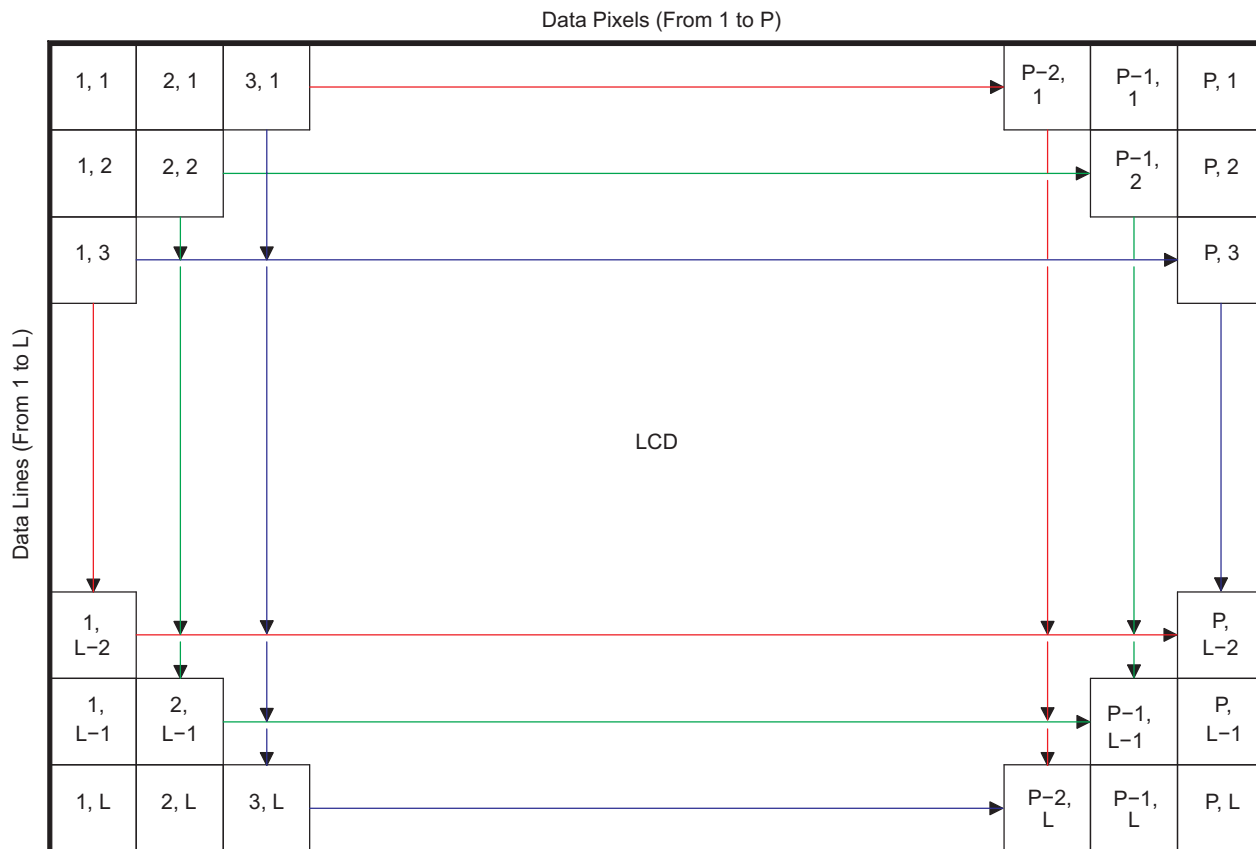
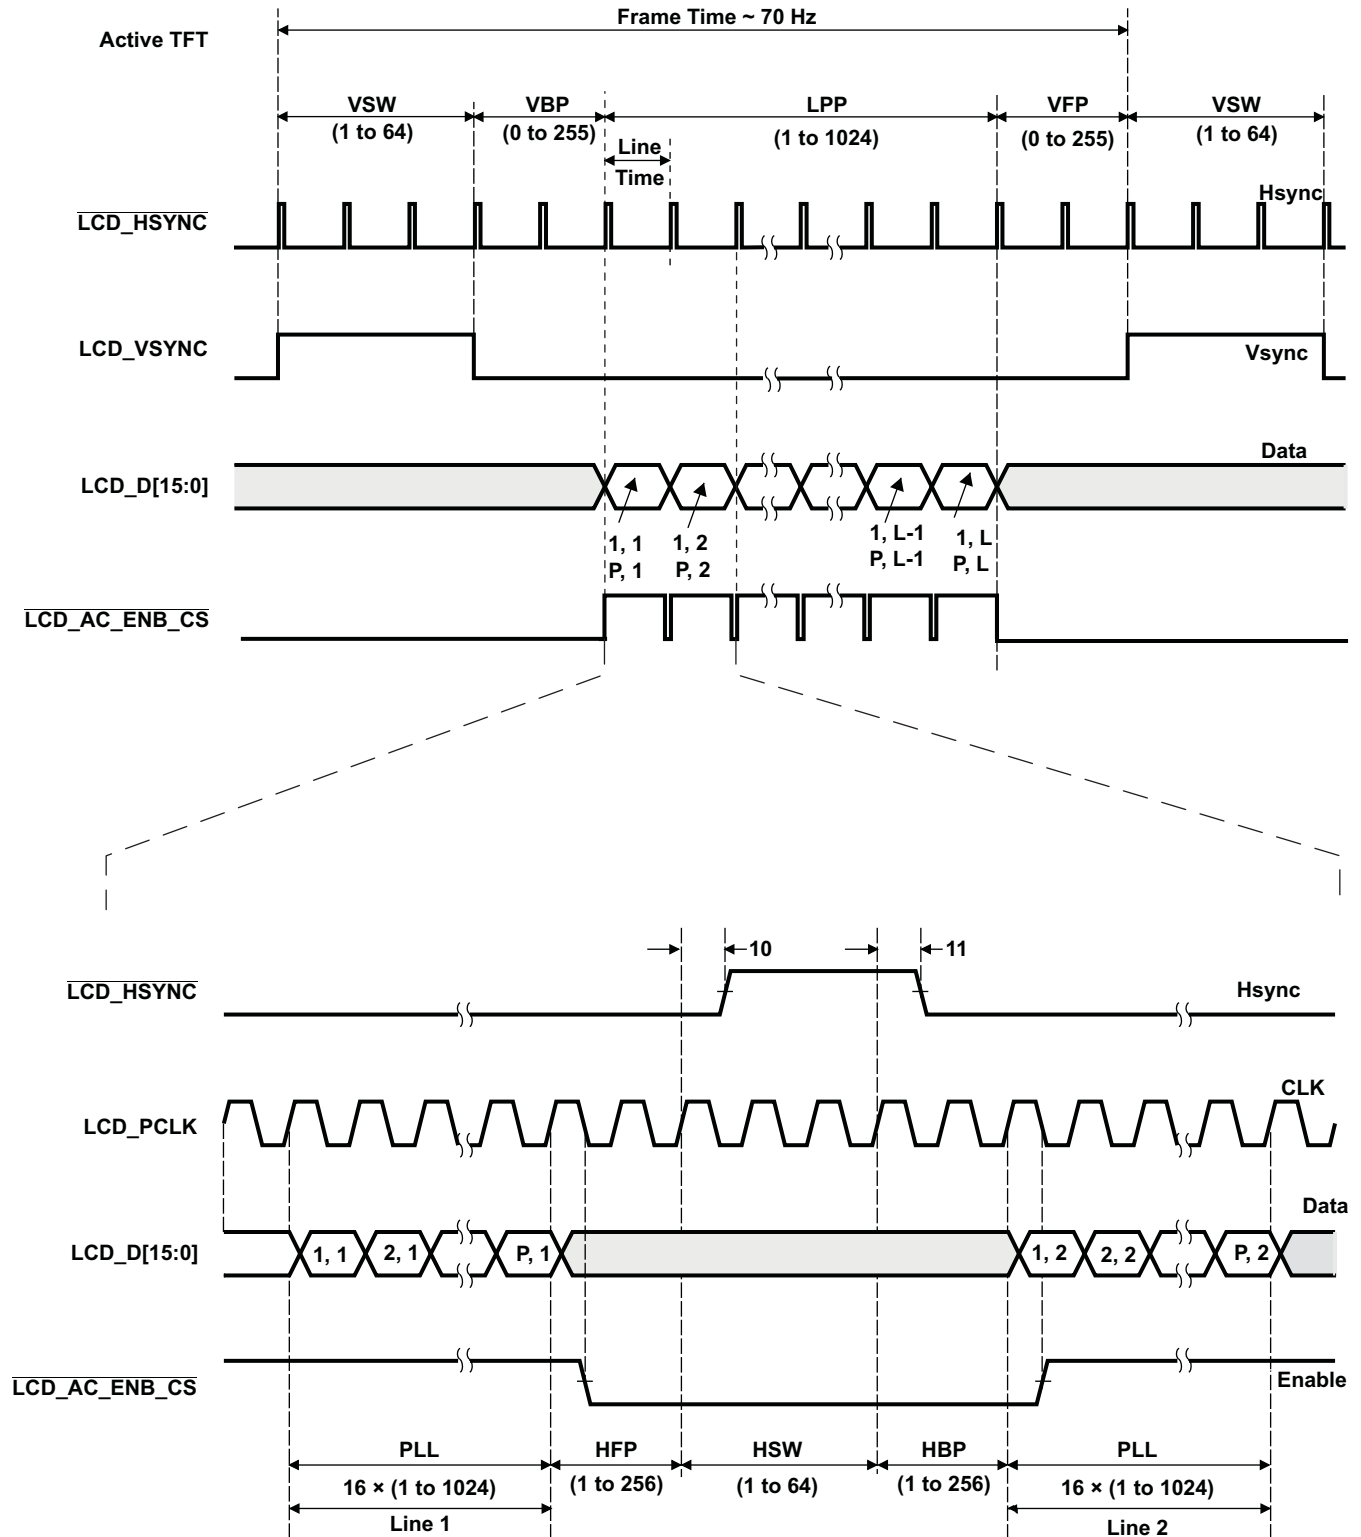
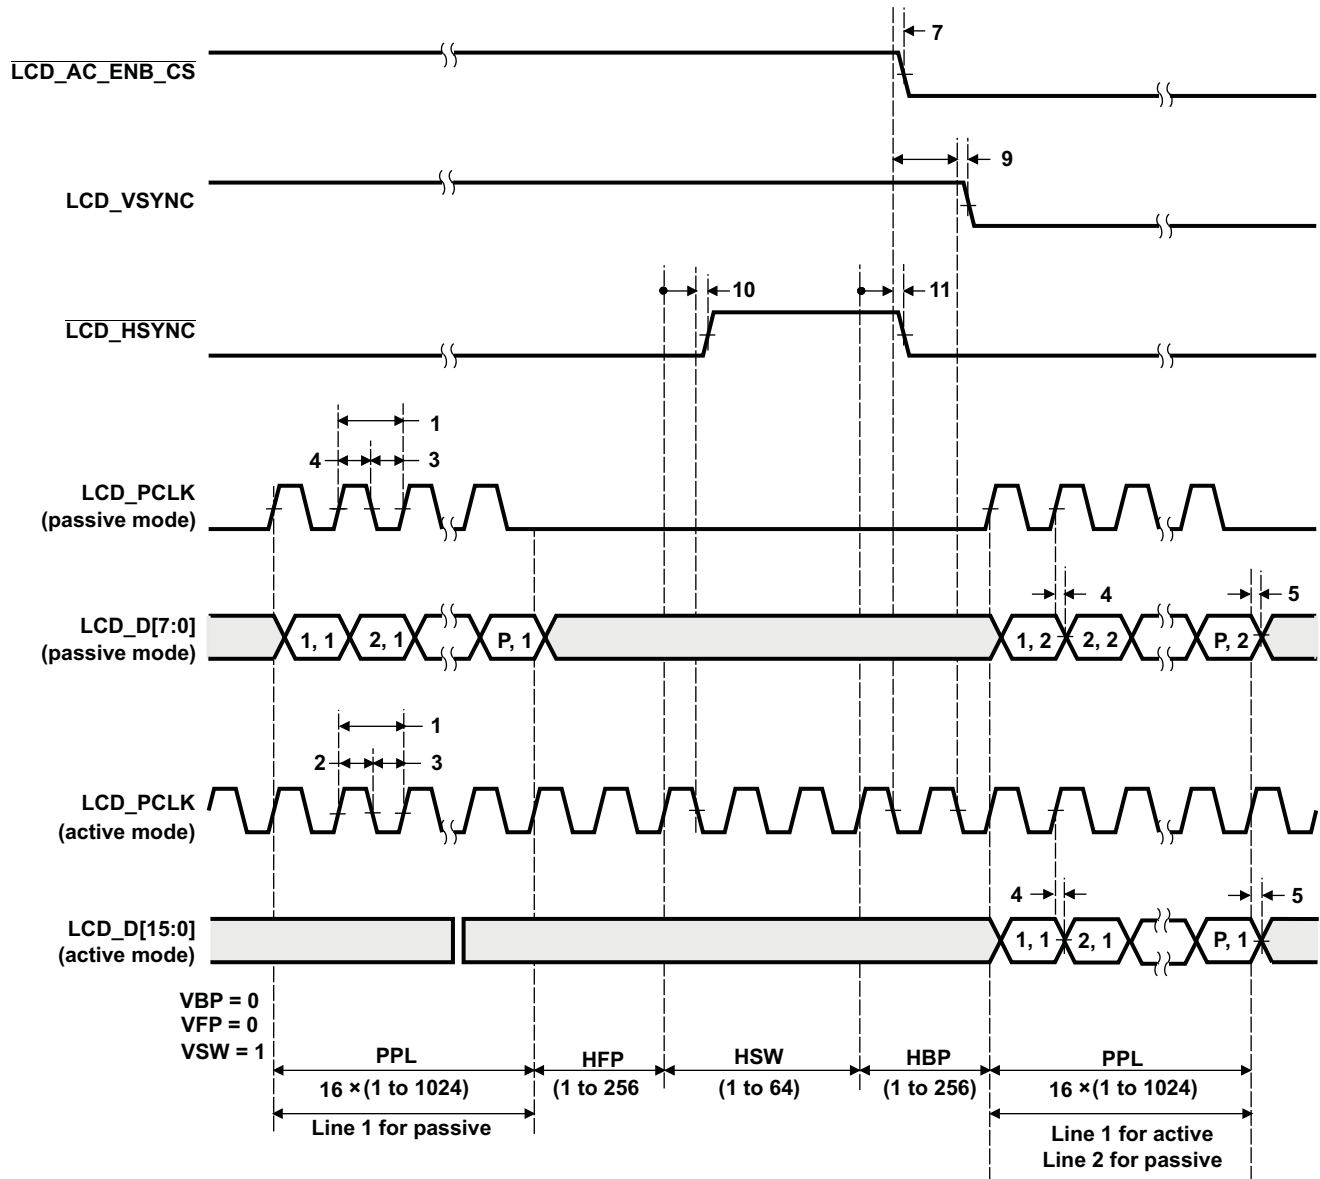

**Figure 6-55. LCD Raster-Mode Display Format**
Figure 6-56. LCD Raster-Mode Active
Figure 6-59. LCD Raster-Mode Control Signal Deactivation
See Figure 6-55 through Figure 6-59
(1) S2 = SYSCLK2 cycle time in ns
(2) The activation edge of the control signals LCD\_VSYNC and LCD\_HSYNC may be programmed to either the rising or falling edge of the pixel clock through the LCD (RASTER\_TIMING\_2) register. In Figure 6-56 through Figure 6-59, all signal polarity and activation edges are based on the default LCD (RASTER\_TIMING\_2) register settings.
The display format produced in raster mode is shown in Figure 6-55. An entire frame is delivered one line at a time. The first line delivered starts at data pixel (1, 1) and ends at data pixel (P, 1). The last line delivered starts at data pixel (1, L) and ends at data pixel (P, L). The beginning of each new frame is denoted by the activation of I/O signal LCD\_VSYNC. The beginning of each new line is denoted by the activation of I/O signal LCD\_HSYNC.